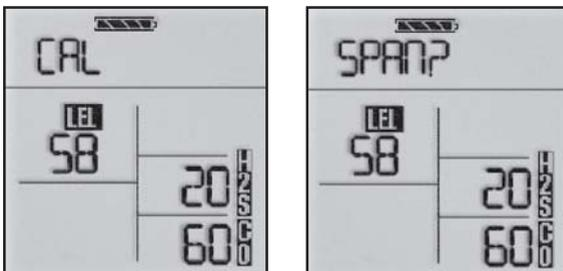

Figure 19: CAL Flag
- Once the zeros are set, **CAL SPAN?** flashes (Figure 19).